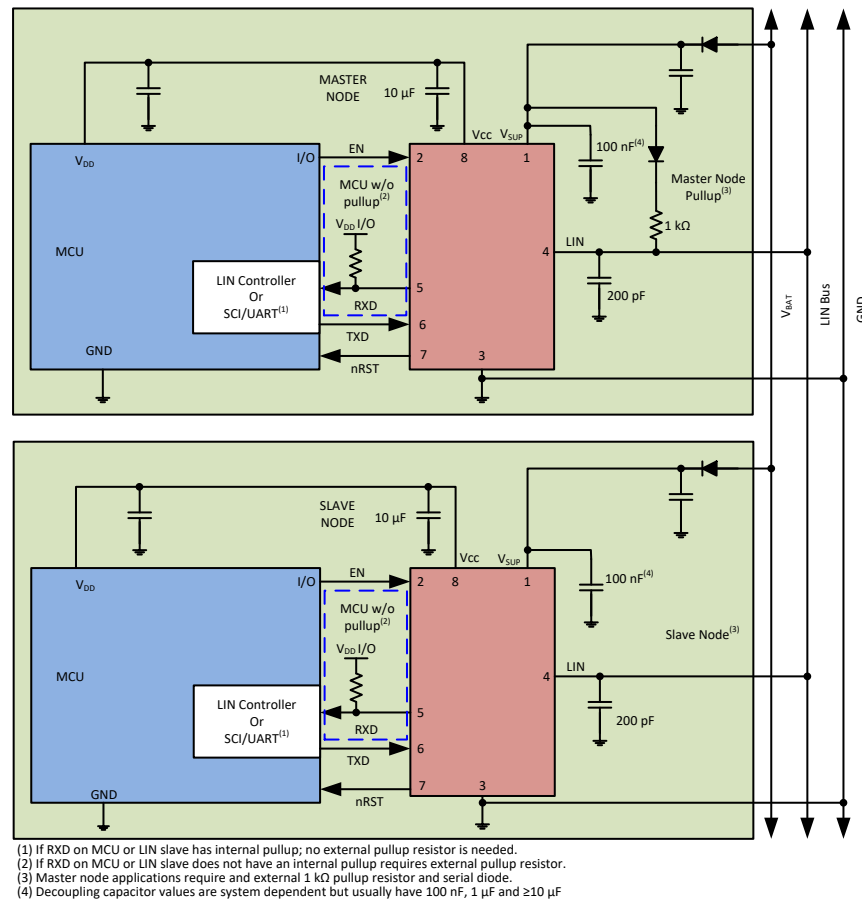

图 27. Typical LIN Bus
The device comes with an integrated 45 kΩ pull-up resistor and series diode for slave applications. For master applications, an external 1 kΩ pull-up resistor with series blocking diode can be used. 图 27
- **Pin 2 (EN):** EN is an input pin that is used to place the device in a low power sleep mode. If this feature is not used, the pin should be pulled high to the regulated voltage supply of the microprocessor through a series resistor, values between 1 k Ω and 10 k Ω . Additionally, a series resistor may be placed on the pin to limit current on the digital lines in the event of an over voltage fault.
- **Pin 4 (LIN):** This pin connects to the LIN bus. For slave applications, a 200 pF capacitor to ground is implemented. For master applications, an additional series resistor and blocking diode should be placed between the LIN pin and the V_{SUP} pin. See 图 27